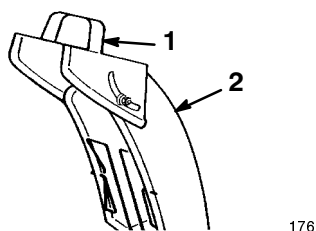

Figure 23
- **Chute Deflector Handle** (Fig. 23)—The deflector handle, located on top of the discharge chute, controls the height of the snow stream.